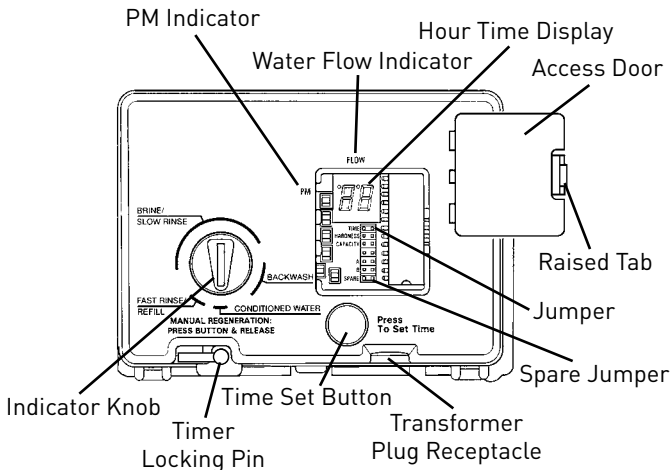
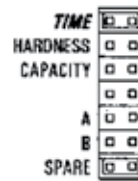

Figure 11
Figure 12
**NOTE:** The following steps will require turning the indicator knob (Figure 11) to various positions. Insert a wide-blade screwdriver into arrow slot in indicator knob and press in firmly. With knob held in, rotate COUNTERCLOCKWISE only until arrow or knob points to desired position. Rotation is made much easier if you grasp the camshaft with your free hand and turn it at the same time. Then permit knob to spring back out.
2. Insert screwdriver into slot in indicator knob (Figure 11). Press in and rotate knob COUNTERCLOCKWISE until arrow points directly to the word BACKWASH.
- Set days of regeneration on skipper wheel (Figure 11).
**NOTE:** The Timer Locking Pin should always be horizontal (Figure 11) during operation.
Open the access door by pushing the raised tab on the door toward the left while pulling the tab out (Figure 12).
**NOTE:** The Timer Locking Pin should always be horizontal (Figure 12) during operation.
When abnormally high water usage exhausts your water conditioner's capacity ahead of schedule, an extra regeneration can be achieved. Depress the indicator knob on the 440i (Figure 11) with a wide-blade screwdriver and turn COUNTERCLOCKWISE to START to initiate a regeneration. For the 460i, simply depress the indicator knob (Figure 12). It will take a few minutes for regeneration to start. A normal regeneration will take approximately two hours.